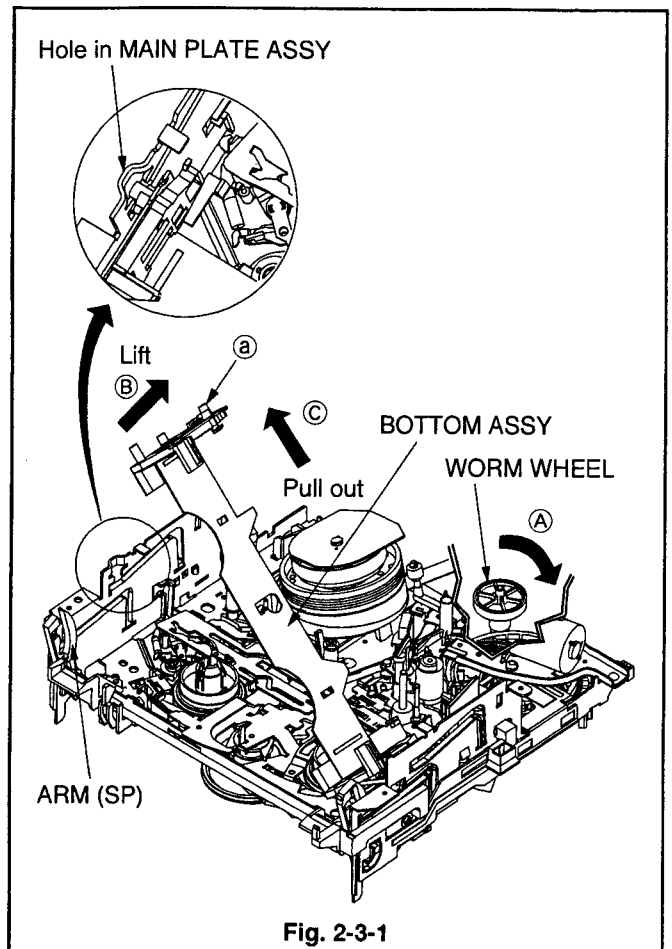

Fig. 2-3-1
1. Move the WORM WHEEL in the Fig. 2-3-1 in the direction shown by the arrow (A). And match the Boss (a) of the BOTTOM ASSY with the Hole in the MAIN PLATE ASSY.
2. Lift the BOTTOM ASSY in the Fig. 2-3-1 in the direction shown by the arrow (B) and pull it out in the direction shown by the arrow (C).
3. Rotate the WORM WHEEL shown in the Fig. 2-3-1 so that the ARM (SP) stands vertically.
5. Insert the Boss (d) of the BOTTOM ASSY to the Upper Groove through the Hole in the MAIN PLATE ASSY shown in the Fig. 2-3-1 and the Boss (e) to the Lower Groove through the slot in the ARM (SP).